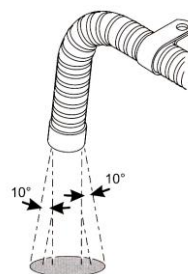

Fig. 25
4.6.6 When the heat is working, the exhaust pipe is at high temperature. In installation, make sure to install it in far distance from plastic parts or other objects with poor thermal resistance of the vehicle body. The exhaust pipe shall be properly fixed. The exhaust vent shall be downwards, perpendicular to road surface with an angle of  $90^\circ \pm 10^\circ$ . To ensure such an angle, the fixing clamp for the exhaust pipe shall be within 150mm from the pipe end. (Fig. 25)